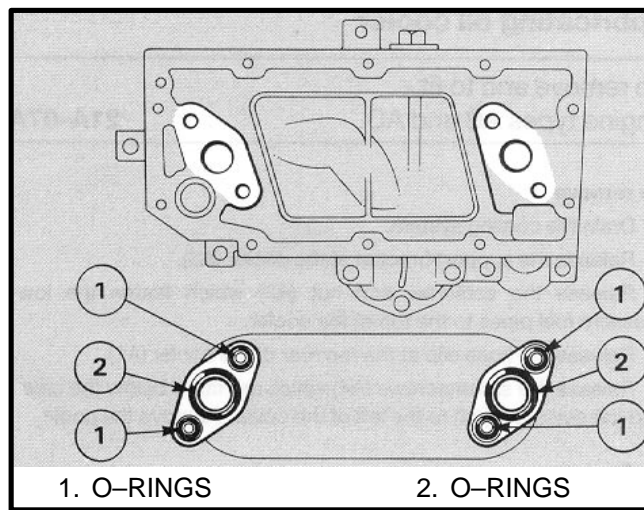
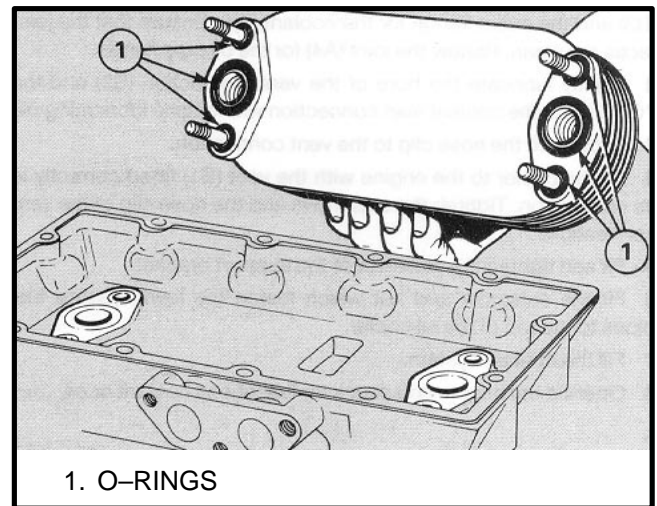

FIGURE 108. JOINTS FOR THE COOLER ELEMENT, ENGINE AB
FIGURE 109. JOINTS FOR THE COOLER ELEMENT, ENGINES YA AND YB
4. Use new O-rings on the flanges and studs as shown in FIGURE 108. or FIGURE 109.